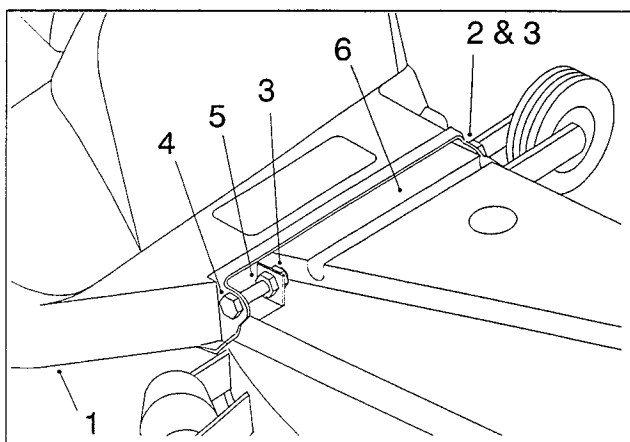

Figure 10
a. Insert a 1/4" x 1-1/2" hex-head bolt through the **right-hand** side of the blower cover. Thread a **regular** nut onto the bolt about 3/8" (1 cm) from the end. Push the bolt through the hinge clip hole and install the **nylon** lock nut so one thread protrudes through the nut (Fig10). Then tighten the **regular** nut against the clip.
b. Mount the **left-hand** side of the blower belt cover to the mower belt cover using a 1/4" x 5/8" bolt and 1/4" nylon lock nut (Fig. 10). Tighten the lock nut until you feel a slight drag on the cover when you rotate it.